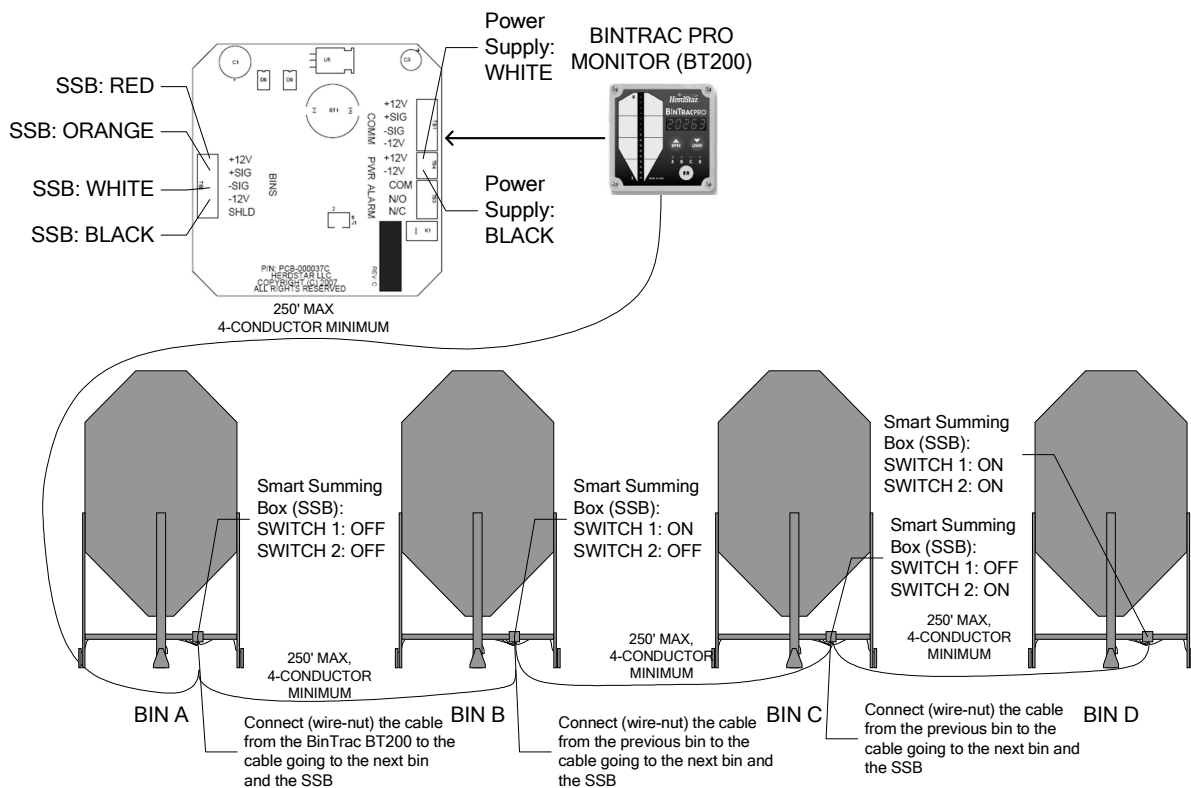

FIGURE 12
**Step 27:** There are two options for wiring the BinTrac Monitor, depicted in Figures 12 and 13. The “daisy-chain” configuration is recommended.